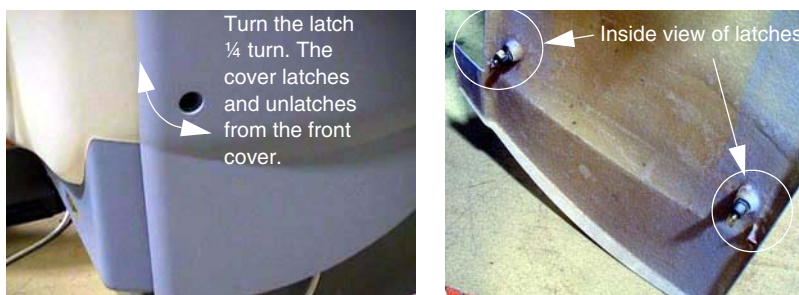

Figure A-1 Side Cover Latches
- 2.) Use an 8mm Hex wrench to unlatch the side cover from the front cover. See Figure A-1.
- 2.) Use Hex wrench to secure the side cover to front cover by turning the bolts a quarter turn. See Figure A-1.